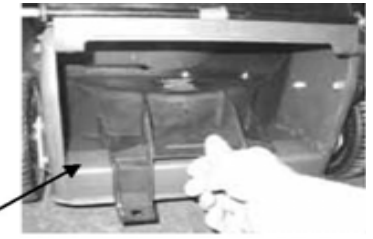

Figure 8. Mulch plug installation (B) - Push Mower
- ★ Align the two locating pins (1) (on the underside of the mulch plug) with the slots (2) in the top surface of the back ledge (3) of the mower base and lower the mulch plug until the lower face rests flat on top of the back ledge of the mower base. Refer to figures 8 & 10.
- ★ Grasp the rear of the mulch plug and lift up and away from the mower. Refer to figures 8 and 10.